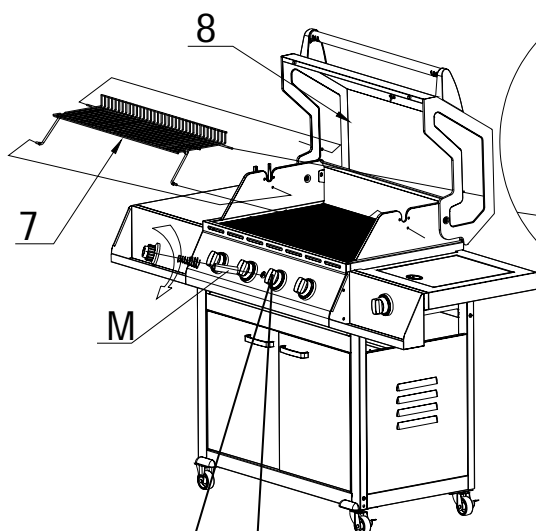

Fig. 14.1
Install Warming Rack (7) by inserting the extensions into the holes under the Motor Support (22) and into the holes on the Hood (38), as shown in Fig. 14.1.